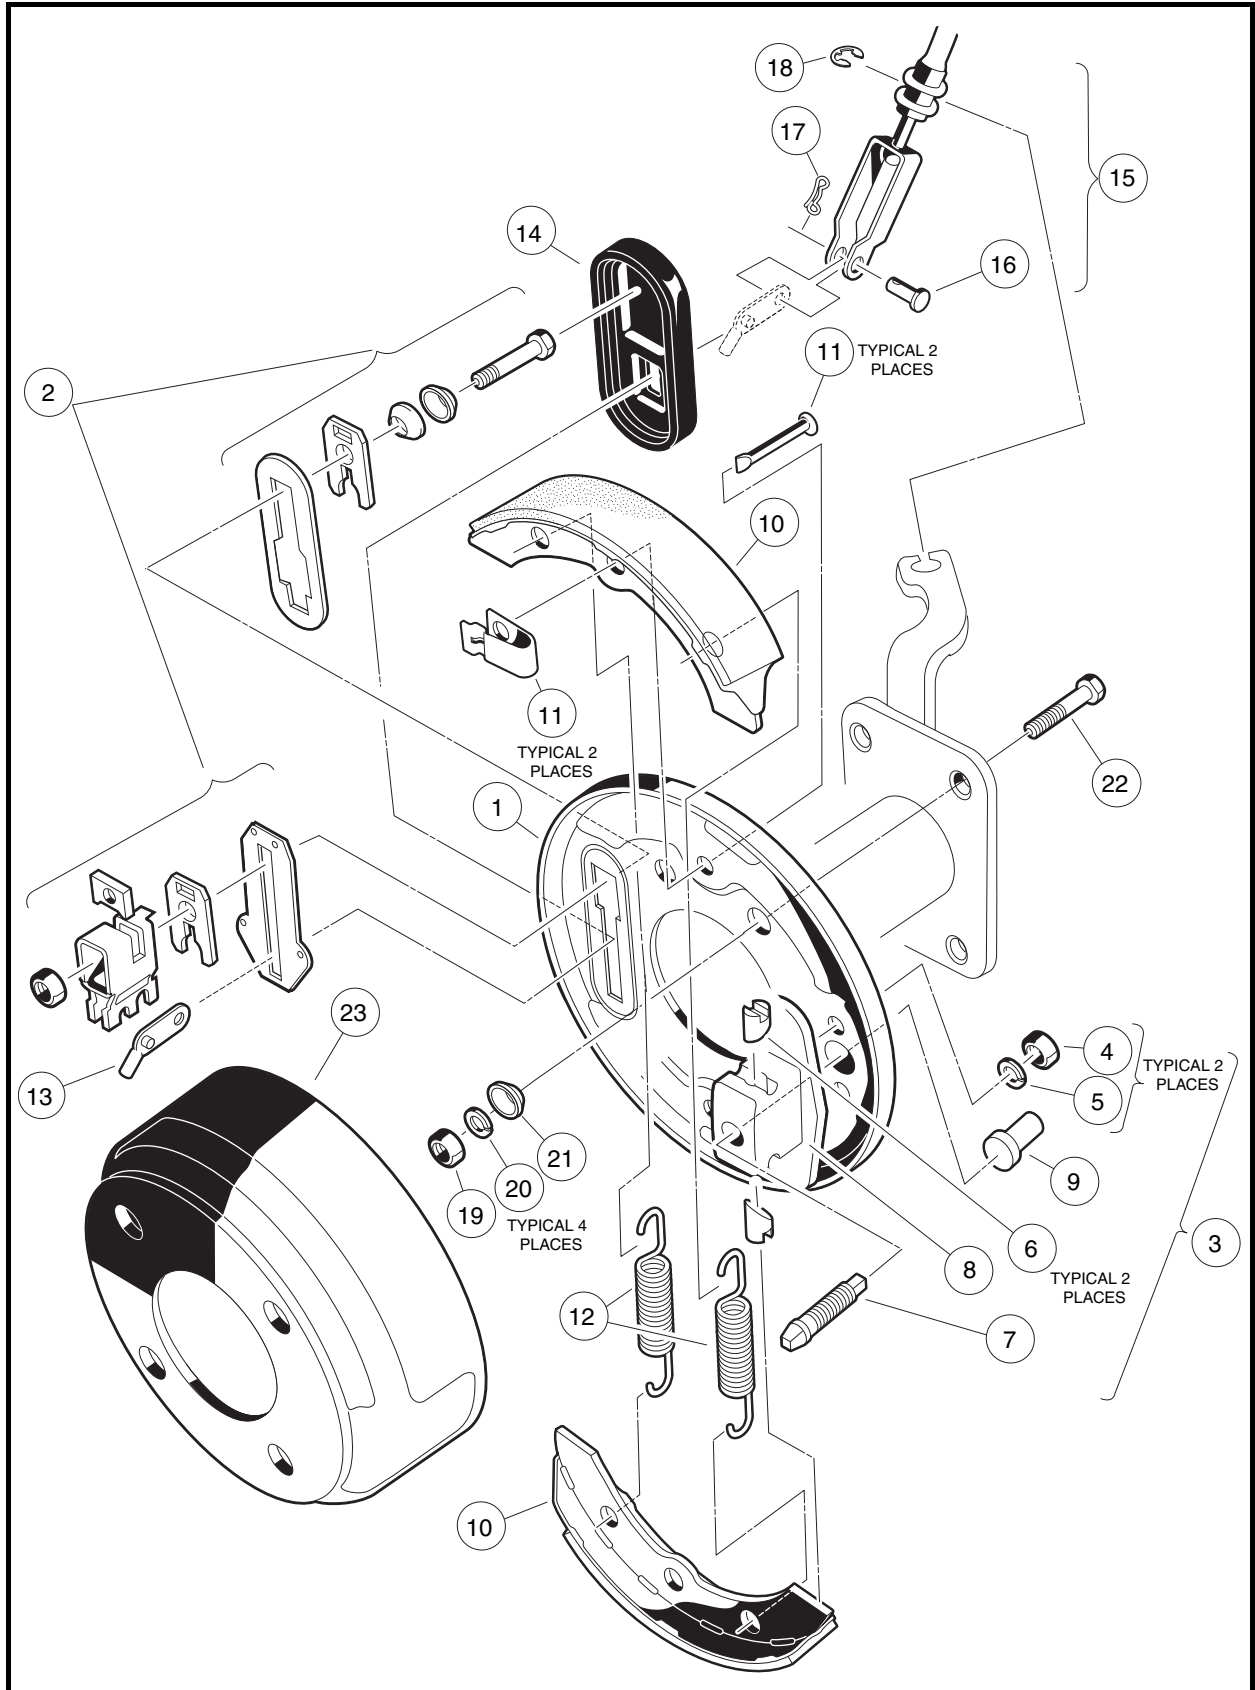

Figure 6-32 Front Manually-Adjusted Brake Assembly
NOTE: Components of the front wheel brake assembly are identical to the rear wheel manually-adjusted brake assembly. The front brake assembly is rotated 90° (when compared to the rear brake assembly) so the adjusting bolt on each assembly is oriented to the rear of the vehicle rather than at the top of the assembly (**Figure 6-32, Page 6-15**).
5. Remove bow-tie pin (17) and clevis pin (16) from brake cable (**Figure 6-32, Page 6-15**).
8. Remove hub and bearing assembly from spindle shaft. Remove four bolts (22), cone washers (21), lock washers (20) and hex nuts (19) that mount the brake assembly to the spindle (**Figure 6-32, Page 6-15**).
1. Install in reverse order of removal. Use bolts (22), cone washers (21), lock washers (20) and hex nuts (19) to mount brake assembly (**Figure 6-32, Page 6-15**).